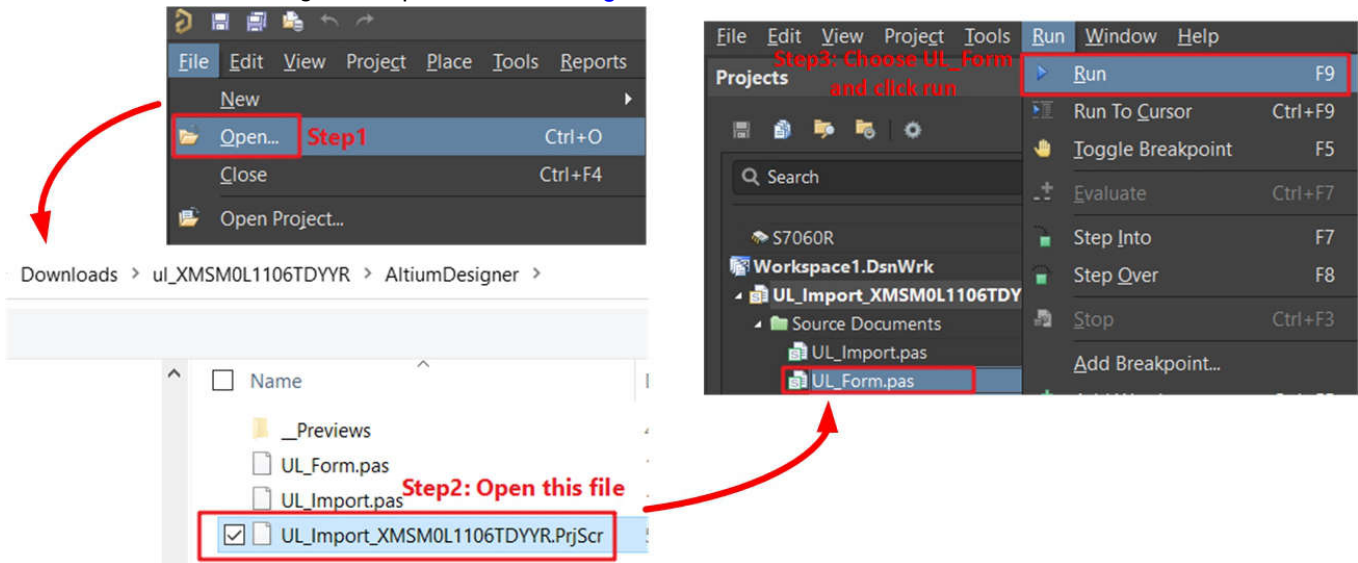

Figure 8-14. Run Altium Designer Script
4. Run the *Altium Designer* script as shown in Figure 8-14.